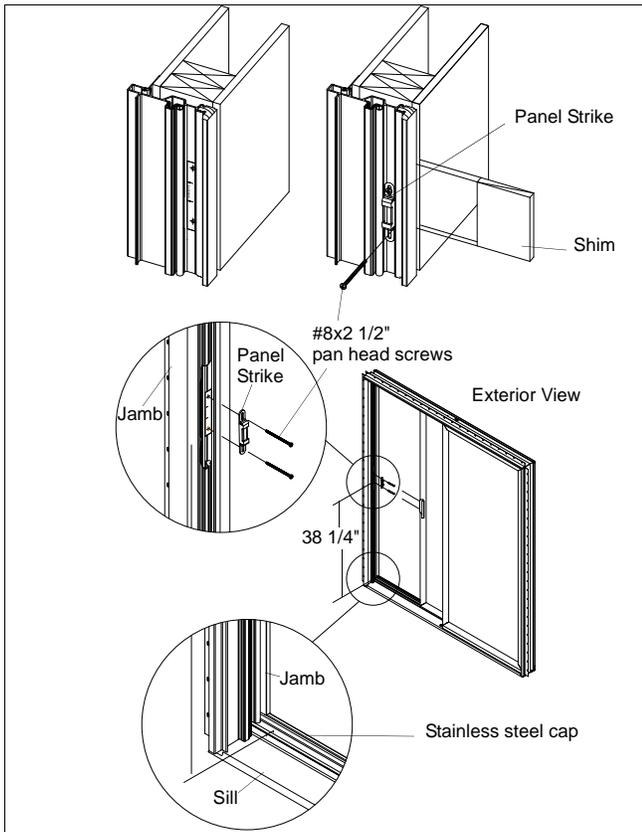

Figure 7
7. Install the panel strike on all doors with two #8 x 2 1/2" pan head screws provided. (For OXO door strikes use the supplied #10x1" pan head screws.) Position strike to center screws in adjustment slots and tighten. Adjust the strike vertically for proper latch engagement if needed. See figure 7.